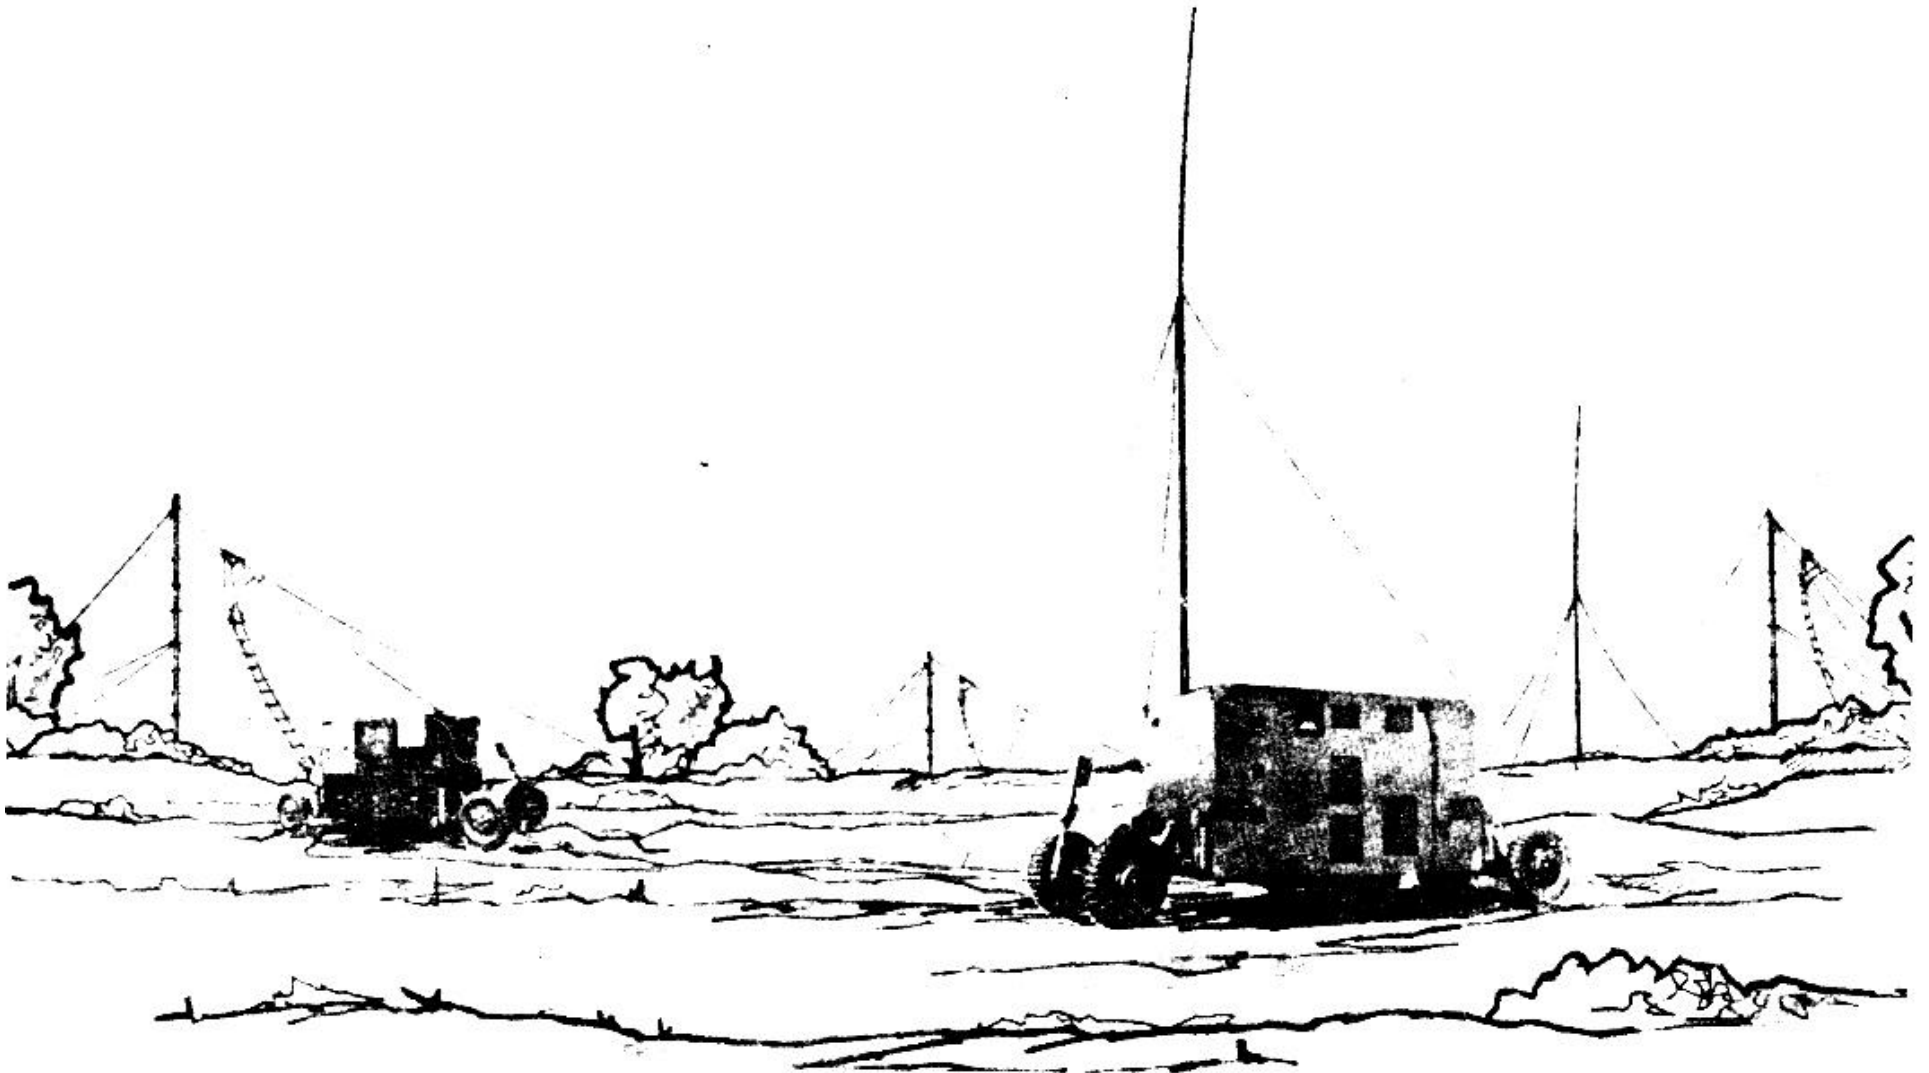

Figure 1-1. Communications Central AN/T.SC-38B.
- a. This manual describes Communication Central AN/TSC-38B (fig. 1-1) and contains installation, operation, and operator and organizational maintenance instructions. It includes instructions for operation under usual and unusual conditions, cleaning and inspection of the equipment, and replacement of parts available to the operator and organizational repairman.